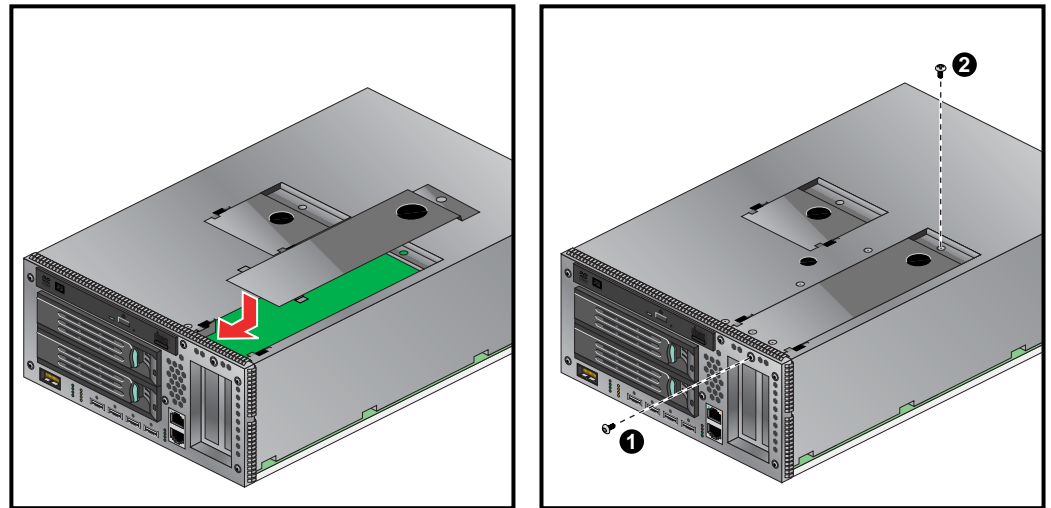

Figure 6-25 Replacing the IA Blade PCI Access Door
8. Replace the PCI card access door by installing it into the slotted opening and sliding it forward, as shown in Figure 6-25.